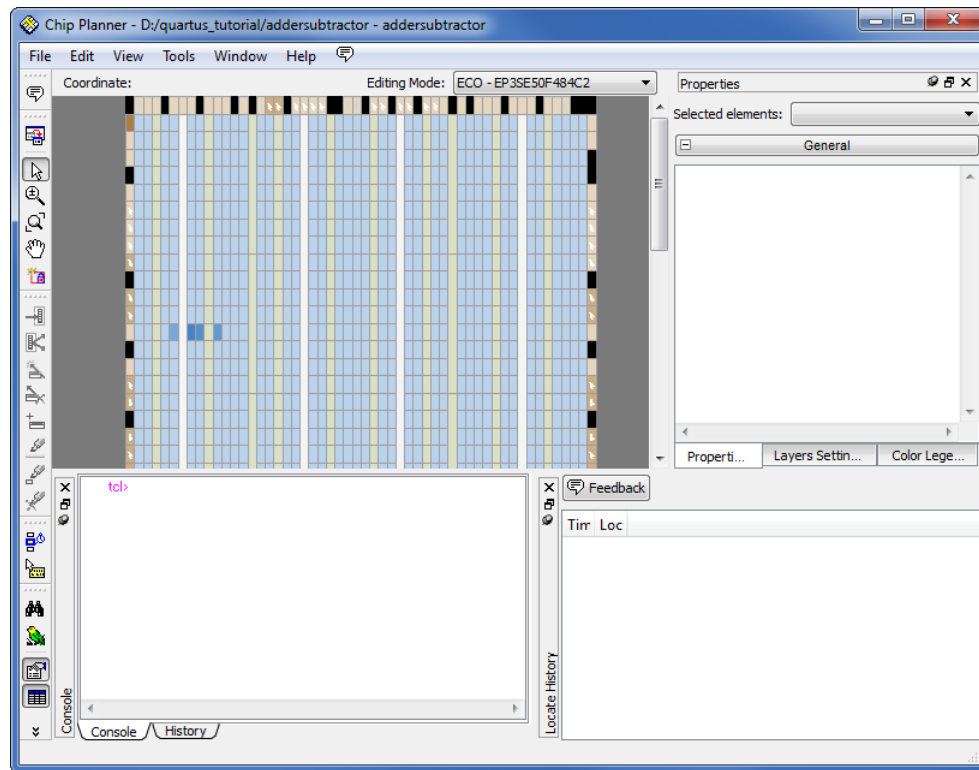

Figure 23: View of the floorplan.
5. An indication of where the circuit is implemented on the chip is available by selecting Tools > Chip Planner(Floorplan and Chip Editor), or by clicking on the icon . This opens the Chip Planner display, as shown in Figure 23. This display highlights the location of the logic elements used to implement the circuit. To make the image appear as shown in Figure 23 you may have to select View > Fit in Window (shortcut Ctrl-Alt-w).